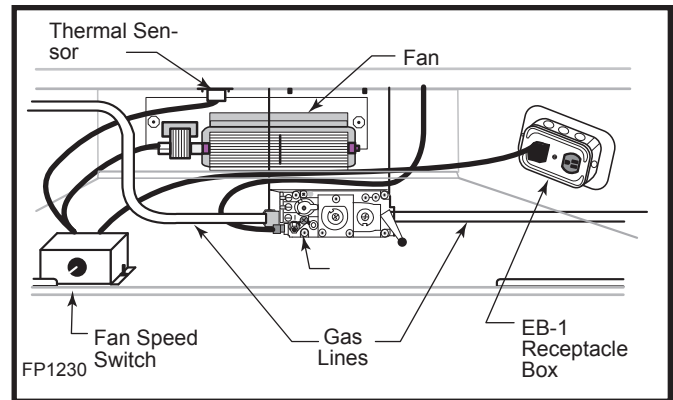

Fig. 48 FK24 fan placement.
3. Locate the fan speed control unit. This can be fitted behind the lower louvre assembly as in Figure 48 or located remotely in a conveniently located wall mounted electrical box. Remote location of the speed control will require suitable extension of the component wiring.